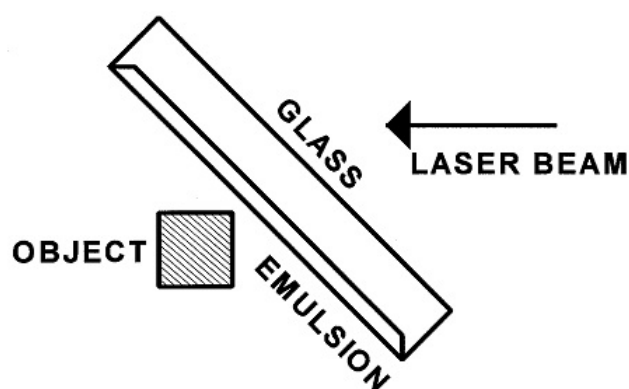

Figure 3
- To eliminate reflection in the glass plate, the laser beam should be horizontally polarized and θ should be Brewster's angle: this way the reflection of the beam from the plate is minimized, as per definition of Brewster's angle. The photographic emulsion should be placed on the side of the glass near the object to be photographed (fig. 3). You can determine which side is the emulsion side by looking for a small dark mark in one of the corners of the plate in safelight: the side on which the mark is on is the emulsion side;